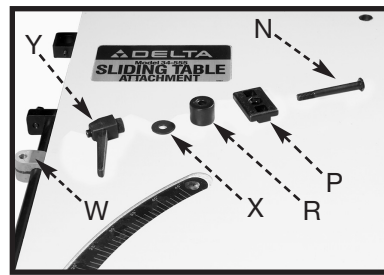

Fig. 40
16. Place the special threaded bolt (N) Fig. 40 through the hole in the remaining slide bracket (P) and the spacer (R) then down through the hole in the sliding bracket (W). Fasten in place with a flat washer (X) and locking lever (Y).